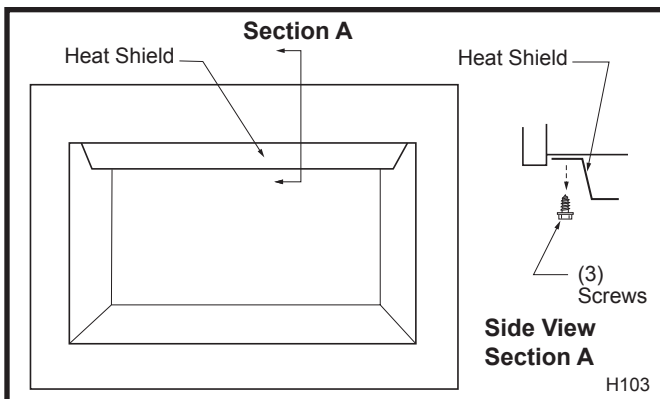

Fig. 78 Heat shield.
2. Remove three (3) screws securing heat shield to combustion dome. (Fig. 78)